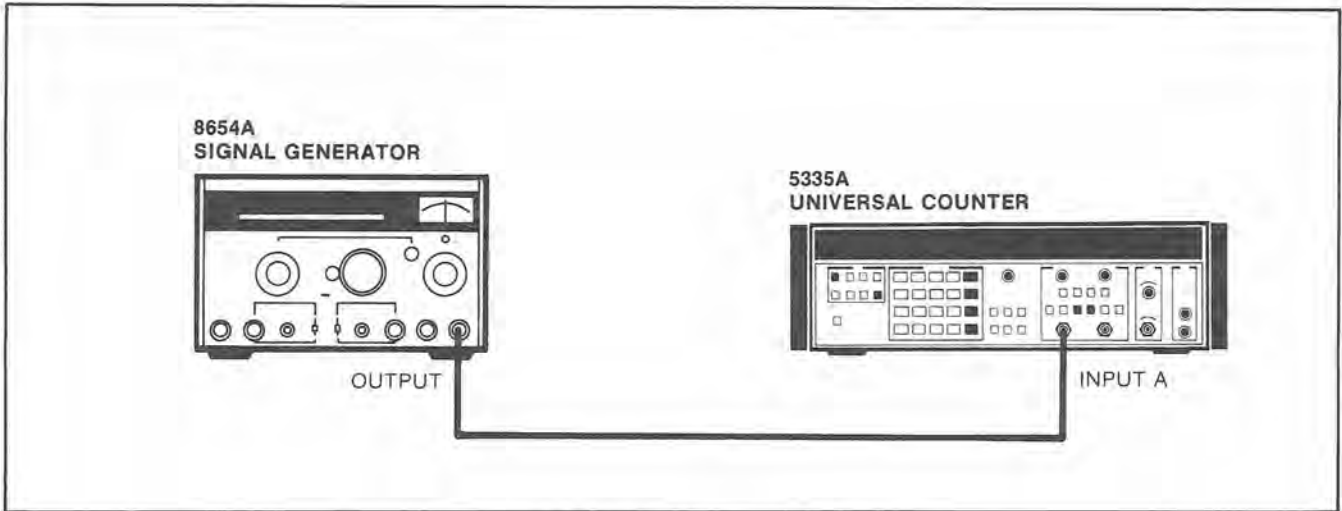

Figure 5-9. A12C46 Adjustment Setup
- b. Connect the HP8654A Signal Generator to the 5335 INPUT A, as shown in Figure 5-9.